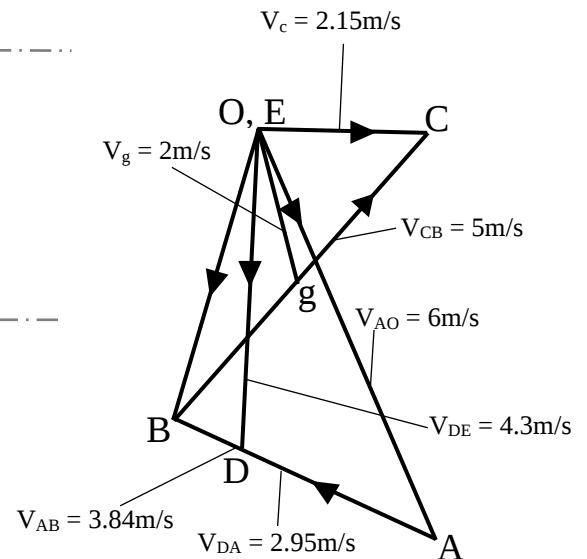

Figure 1.2
- 1.2 Draw an acceleration diagram on addendum 1 sheet to scale of $1\text{cm}=100 \text{ m/s}^2$ taking your plane from the space diagram and using the velocities provided in Figure 1.2 to obtain the centripetal component of accelerations. Label the acceleration diagram. (14)